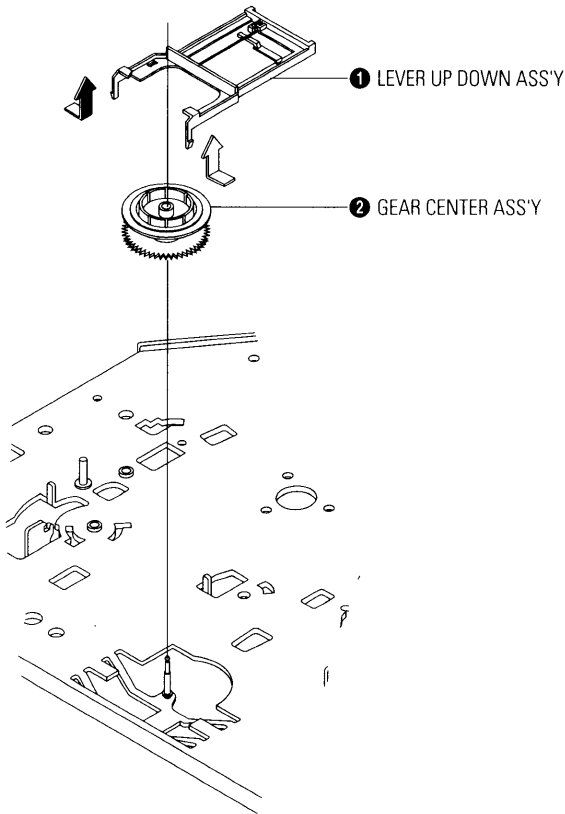

Fig. 4-25 Lever Up Down Ass'y, Gear Center Ass'y Removal
- 1) Remove the 2 hooks in the direction of arrow as shown Fig. 4-25 and lift the Lever Up Down Ass'y ①.
- 2) Lift the Gear Center Ass'y ②.